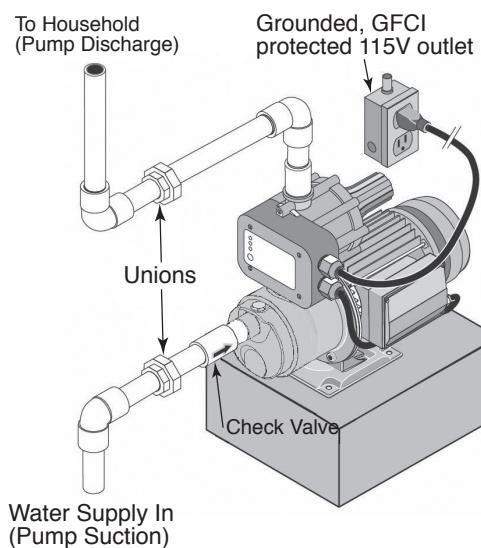

Figure 2: Typical household booster installation. Purchase plumbing fittings separately. Consult code for relief valve/pressure regulator requirements.
9. Install piping from elbows to pump including a union in each line, an elbow in the discharge line, and a check valve in the pump suction line. The arrow on the check valve must point to the pump suction (see Figure 2). If not already in the plumbing system, install a pressure relief valve in the pump discharge line capable of passing the full pump flow at 100 psi (689 kPa). If local code requires installation of a pressure relief valve capable of handling the full pump flow at a pressure less than 100 psi (689 kPa), follow the code requirements. A low pressure safety cutoff switch should also be installed in the discharge line, and may be required by your local codes.
WARNING Hazardous voltage. Risk of dangerous or fatal electric shock. Plug the pump into a 115 Volt, 60 Cycle, Ground Fault Circuit Interrupter (GFCI) protected grounded outlet only. The pump is equipped with a 3-wire grounded cord and plug. Do not modify or remove the plug. Make sure the outlet meets the National Electric Code or the Canadian Electrical Code, as applicable. To avoid dangerous electrical shock hazard, keep the cord dry at all times. See Figure 2.